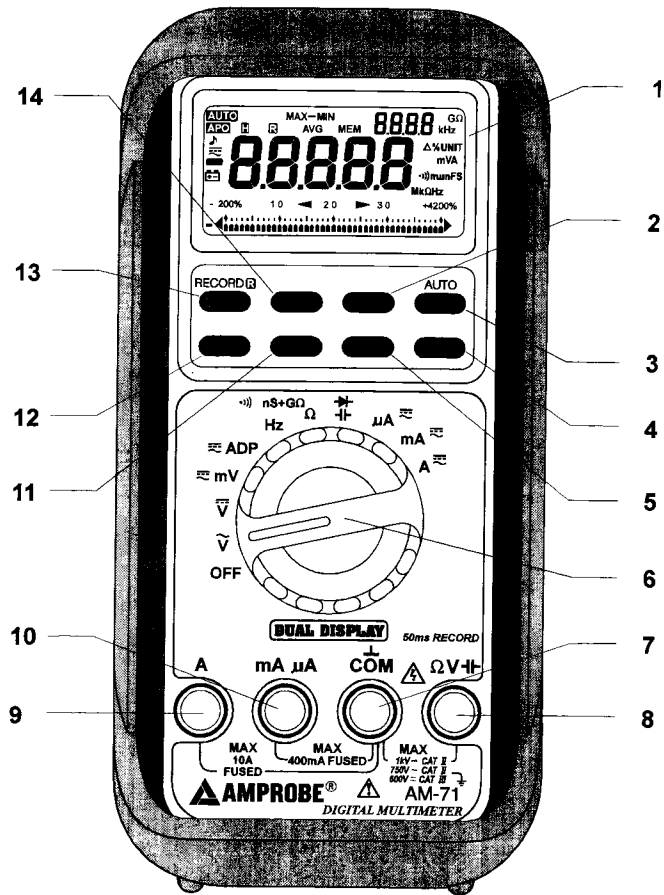

FIG 1. FRONT PANEL LAYOUT
(A) PANEL ILLUSTRATION, See FIG 1